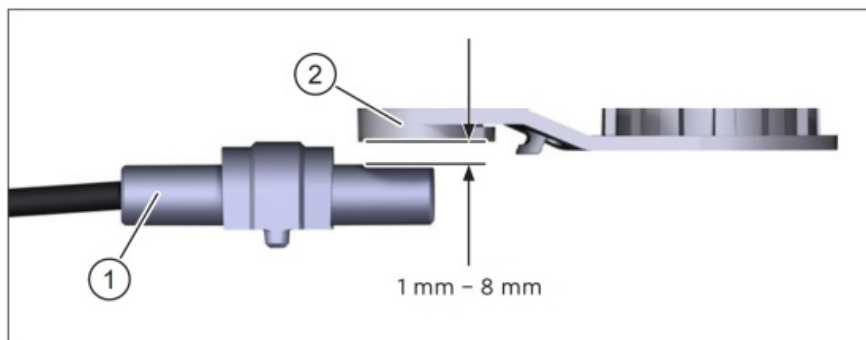

Fig. 3: Mounting – Distance between Speedsensor and magnet
The speed of the e-bike is measured with support of a magnet (item 2 in **Fig. 3**) which triggers pulses at the speed sensor (item 1 in Fig. 3). The Speedsensor and magnet are mounted at manufacturer with a distance between 1 mm and 8 mm (see Fig. 3) in the area of the rear wheel.